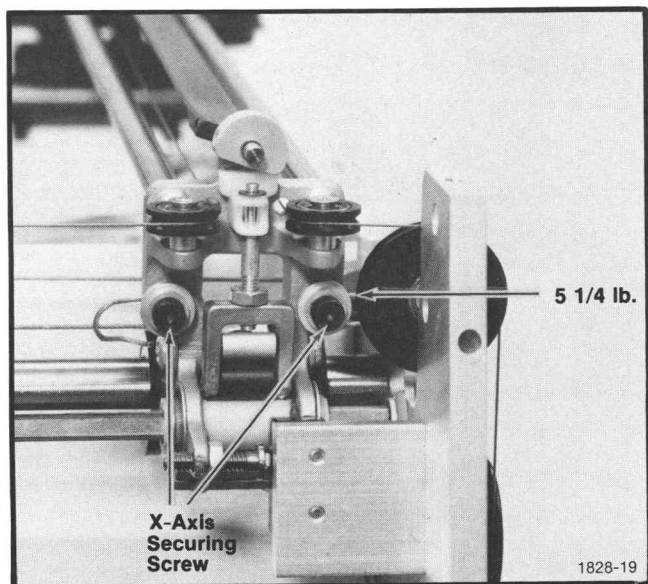

Fig. 3-19. X-Axis Tension Adjustment.
6. Refer to Fig. 3-19. Position the pen carriage to the right most position of the plotter. Tie the right side of the X axis drive cable to the spring tension gauge. Loosen the right securing screw on the pen carriage. With the drive cable making a half loop around the screw, pull a tension of  $5\text{--}1\frac{1}{4} \pm 1\frac{1}{4}$  lb on the X axis drive cable and retighten the securing screw.